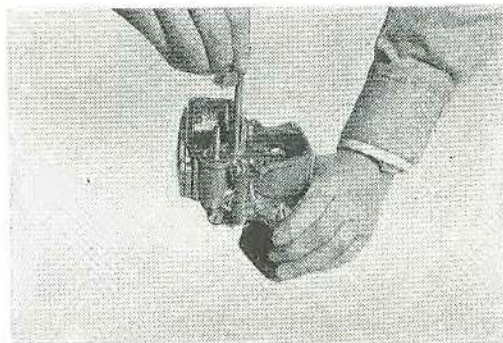

Figure 140
- (15) Assemble on lifter rod (Fig. 140).